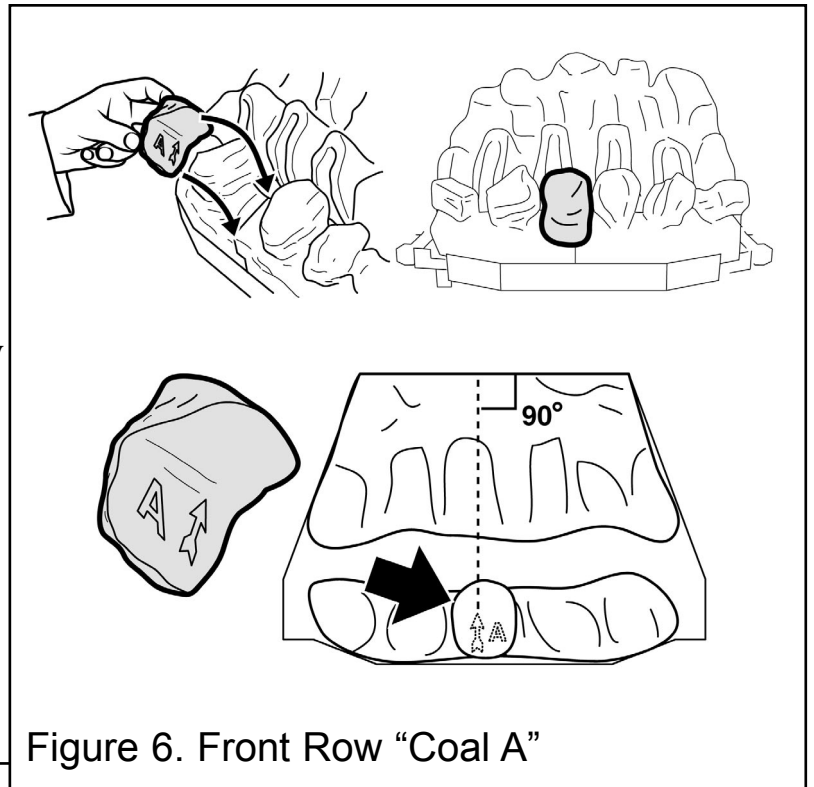

Figure 6. Front Row "Coal A"
5. The coals should be positioned so that the arrows always point towards the back of the firebox. When located into position the stem of each arrow should be at 90° to the rear of the fireplace opening (See figure 6).
6. Hold coal 'A' upright with the arrow pointing to the top. Locate coal 'A' as shown in figure 6.